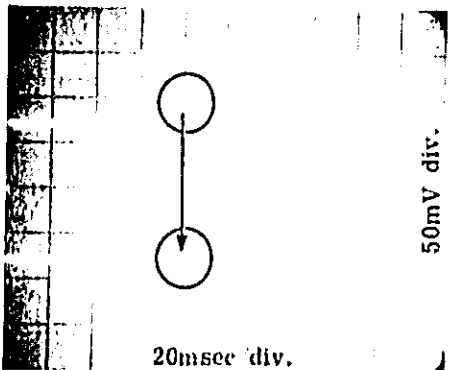

Figure 5-9. Waveform at A7TP2.
- e. Adjust A5C10 so waveform at A7TP2 matches that shown in Figure 5-9.